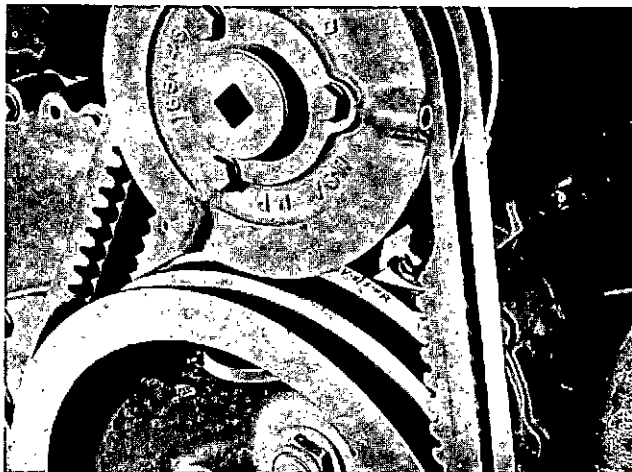

Fig. 5-35. Valve set marks
2. Bar engine in direction of rotation until No. 1-6L VS mark appears. See Fig. 5-35 for location of valve set marks. In this position, both intake and exhaust valves must be closed for cylinder No. 1, on engine left bank. (Remove block from compression release before setting valves.)